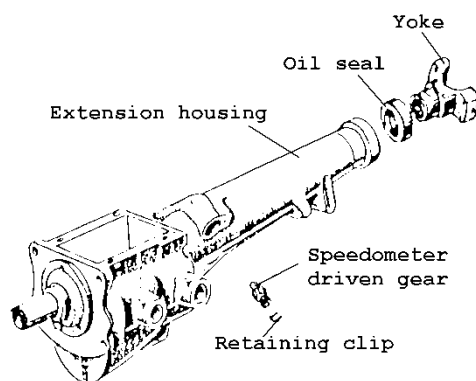

FIG. 3
Lock the transmission in tow gears, then remove the U-joint flange (yoke) and oil seal. Refer to Fig. 3.
- Remove the speedometer driven gear (Fig. 3).
- Remove the speedometer drive gear snap ring and slide the speedometer drive gear off the output shaft (Fig. 3(a)).